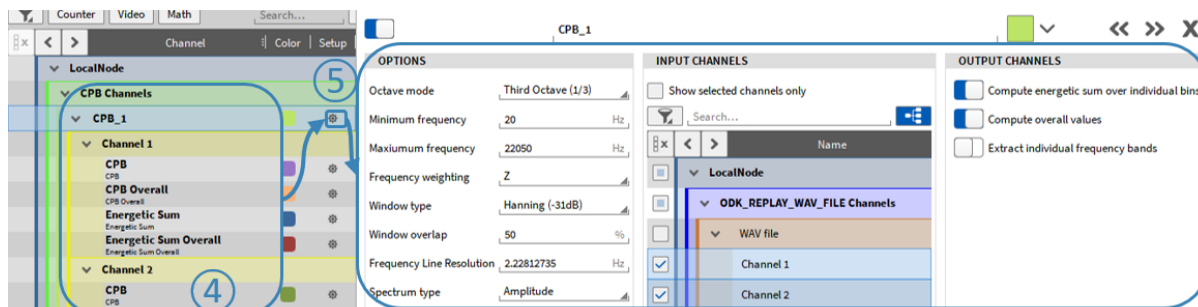

Fig. 7.128: CPB Analysis with extracted 100 Hz and 250 Hz bin
3. Press *Add* afterwards to create the calculation. The channels will be added to the Channel List (see ④ in Fig. 7.128)
4. The settings can be accessed afterwards by clicking on the Gear button of the channel (see ⑤ in Fig. 7.128)
The actual CPB spectrum (changing in time) is calculated per default. The channel name is *CPB* (see ④ in Fig. 7.128).
If *Compute energetic sum over individual bins* is enabled, the energetic sum for the spectrum is calculated. The channel name is *Energetic Sum* (see ④ in Fig. 7.128).
The calculation will be reset at recording start. The channel name will be *CPB Overall* and *Energetic Sum Overall* (see ④ in Fig. 7.128).